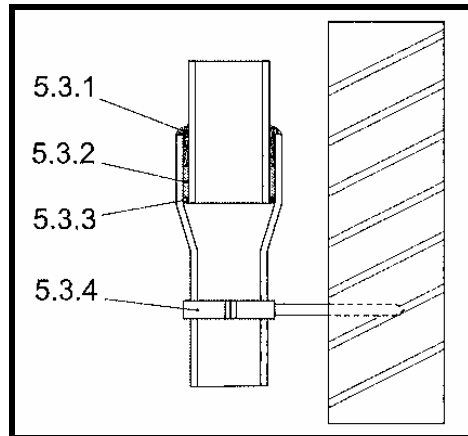

FIGURE 4
- 5.3 FIGURE 4 shows the sealing and fixing of a fibre cement downpipe. Write the correct names of the components next to the question number (5.3.1 – 5.3.4) IN THE ANSWER BOOK.